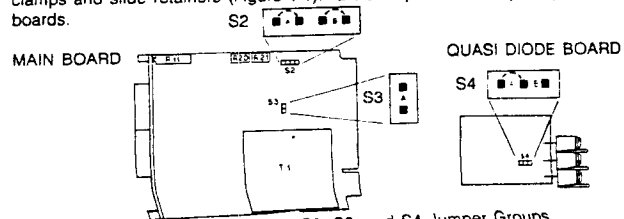

Figure 5-2 Location of S2, S3, and S4 Jumper Groups
NOTE: For sections 5.2, 5.3, and 5.4, refer to the PC board diagram in Figure 5-2 below for jumper locations. The DP465 must be removed from the panel in order to get at the jumpers discussed.
S3 ON Disables the digital filtering by connecting the digital serial output to serial input. (This jumper is internal to the meter, see Figure 5-2.)
2. Disassemble the DP465 per the instructions located above Figure 5-2.